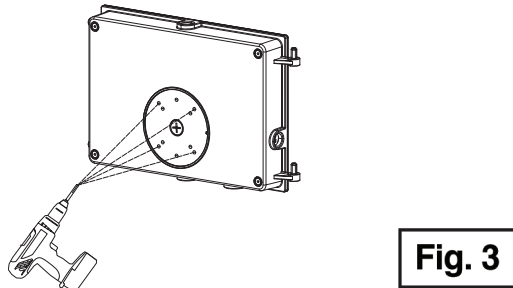

Fig. 3
3. Drill through the mounting holes on the j-box template according to the applications requirements. (See Fig. 3)